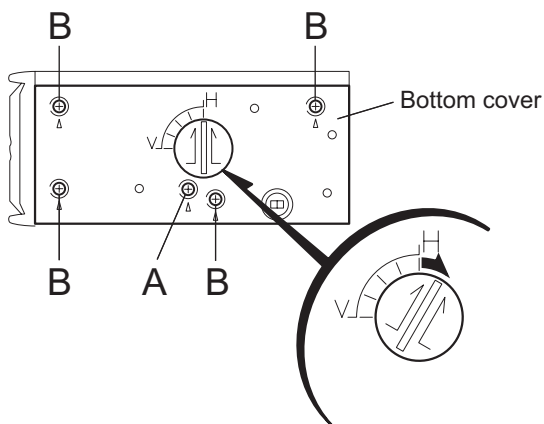

Fig.1
2.3.1 Removing the bottom cover and front panel assembly (See fig.1~4)